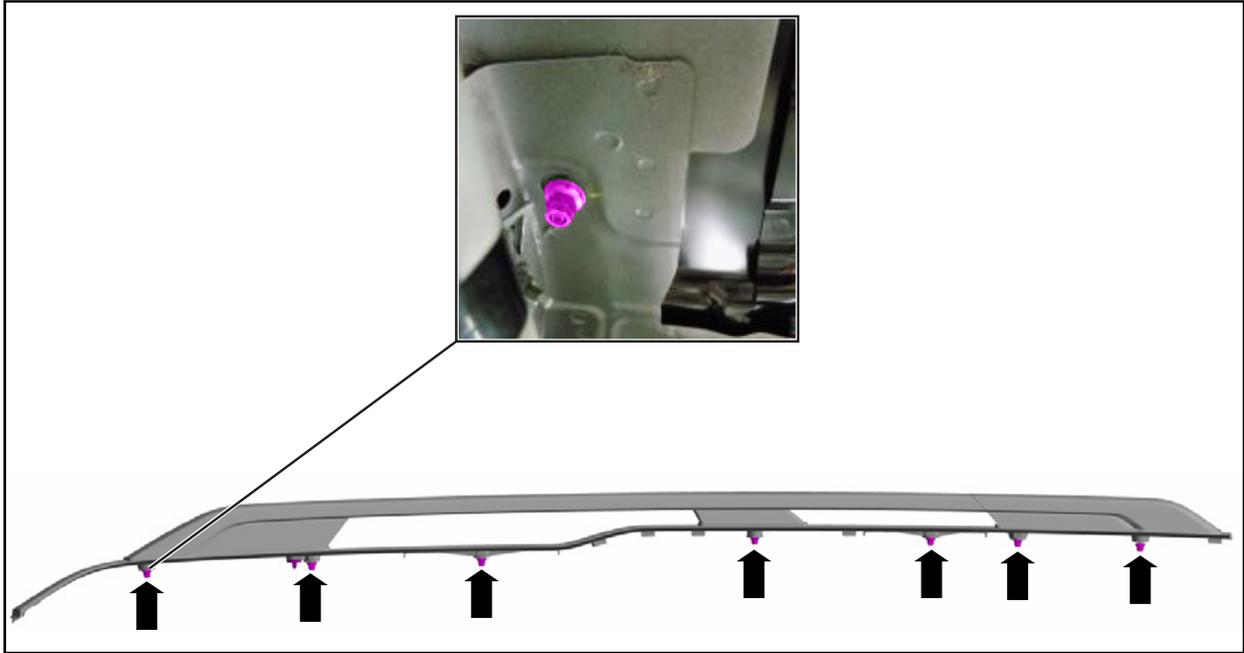

FIGURE 44
44. Install the LH side rail nuts from inside the vehicle. See Figure 44.